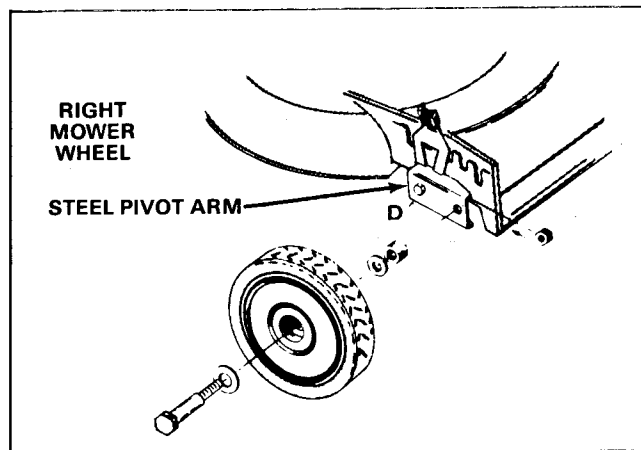

Figure 144
18. See Figures 144 and 145. Reinstall the right side wheel with new shoulder bolt, 1/2" flat washer, 3/8" flat washer, and frame spacer, and locknut, but not using a stop bracket.